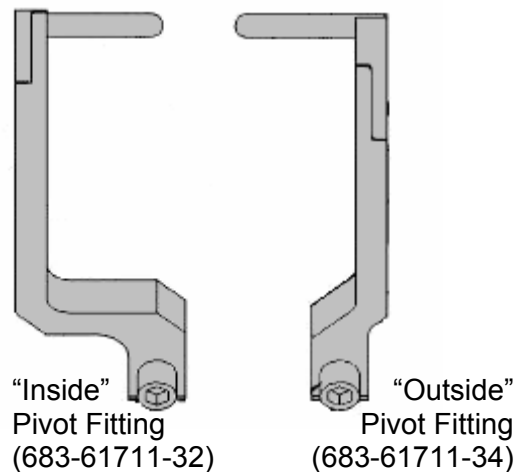

Figure 11.- ARIS Pivot Fitting Bottom Right, Outside vs. Inside.
- 8.2 Remove ARIS Pivot Fitting Bottom Right (outside) (P/N 683-61711-34) from lower Standoff (Ratchet, 3/8" Drive; 6" Long, 3/8" Hex Head, 3/8" Drive). Refer to Figure 11.